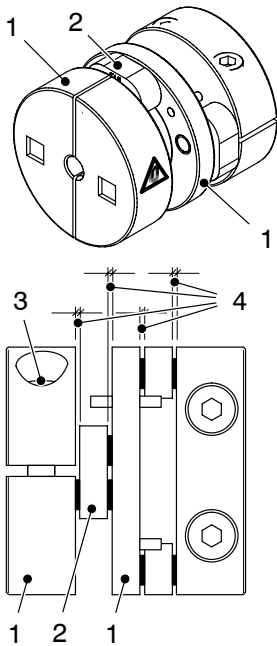

Fig. 7-18
The axial offset, meaning the sum of the four gaps (4, Fig. 7-18), must result in at least 2 mm (0.08 in) of air to accommodate the heat expansion during operation.
5. Center the coupling disks (1) to one another and allow the coupling links (2) to hang vertically (Refer to Fig. 7-18). Turn the coupling half on the motor shaft to its position by hand.
6. Tighten coupling screws (3). Torque: 36 Nm / 320 lbin.